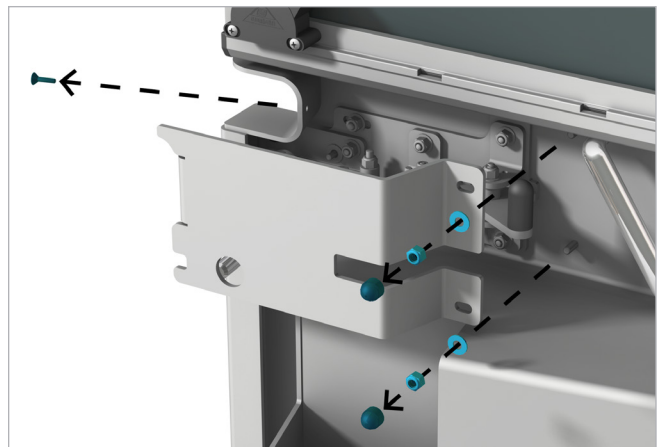

Figure 1 – Nut cover, nut, washer, and flat head bolt locations.
2. Locate the hardware removed in step 3 of latch cover removal. Using the 1/8 in. hex key, install the flat head bolts, tightening to a final torque of 23 in-lbs. See **Figure 1** for bolt locations.
3. Locate the hardware removed in step 2 of latch cover removal. Using the 7/16 in. wrench, install the washers and nuts, tightening to a final torque of 75 in-lbs. See **Figure 1** for nut and washer locations.
4. Locate the hardware removed in step 1 of latch cover removal. Reinstall the plastic nut covers. See **Figure 1** for nut cover locations.